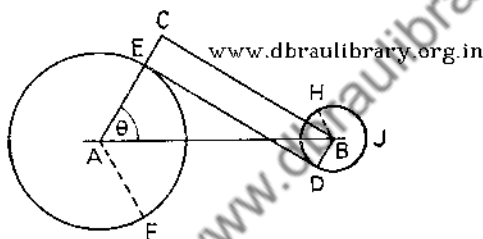

Fig. 45
(4) If, in Example (3), a crossed belt is used, calculate the length of belting required (see fig. 45).